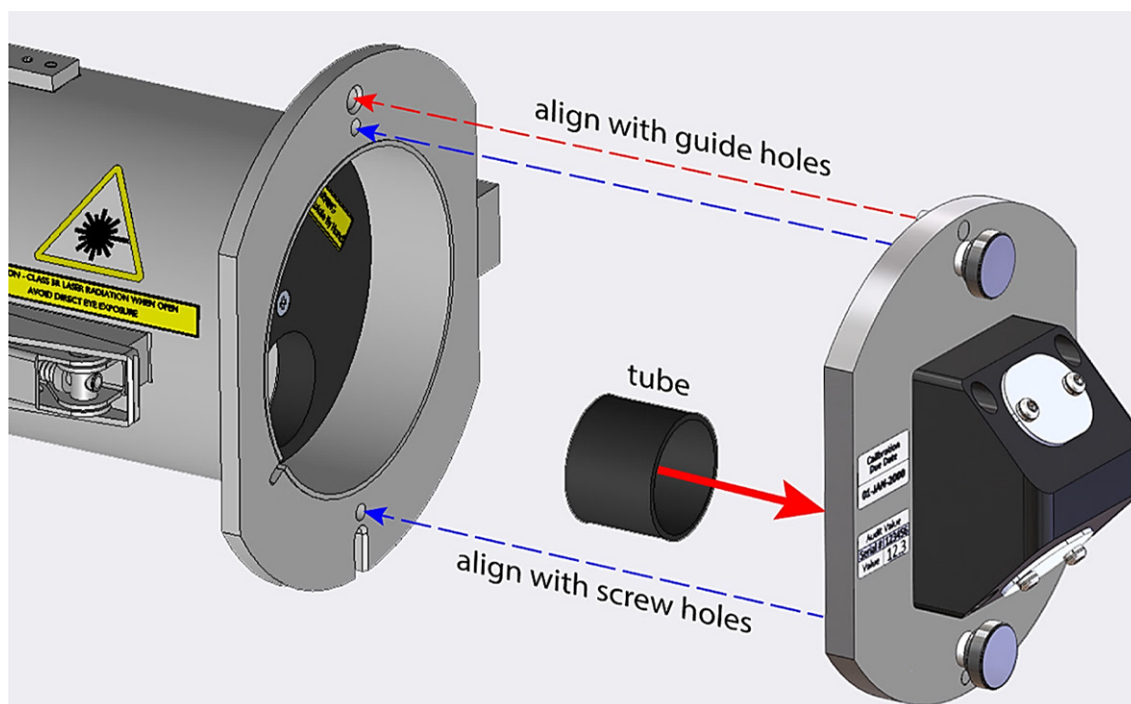

Fig. 5-5 Attaching the MAU block and blanking tube
- 4) The MAU comes with two blanking tubes (1 off short and 1 off long). Fit the appropriate tube to the MAU by inserting it into the opening on the rear of the MAU backplate (see Fig. 5-5 below).
- 5) Referring to Fig. 5-5, attach the MAU to the sensor body as shown: